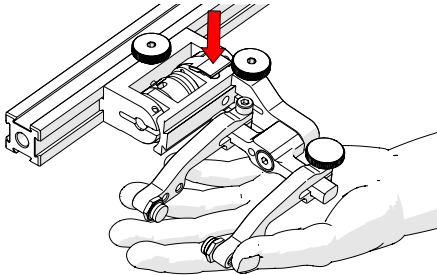

Fig. 207 - Lift slightly and press Latch
2. Lift probe holder slightly and press the latch button (Fig. 207) to release the probe holder the full 45° degrees.